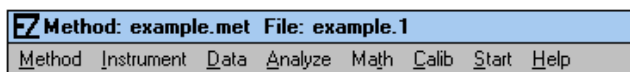
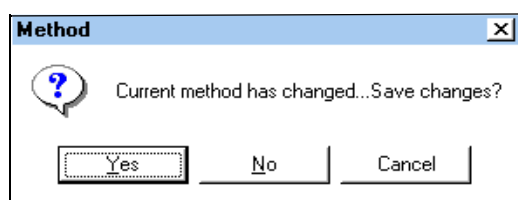

Figure 20 EZChrom 200/400 menu
Figure 21 Save method changes window
1. Select the **New** command which is listed in the **Method** menu (Figure 20). This resets the timed events, peak, and calibration tables. If you have been practicing cursor moves and want to begin a sample session, click on **Method**, then **New**, and the following window will appear (See Figure 21). Do not save changes to the default Method.